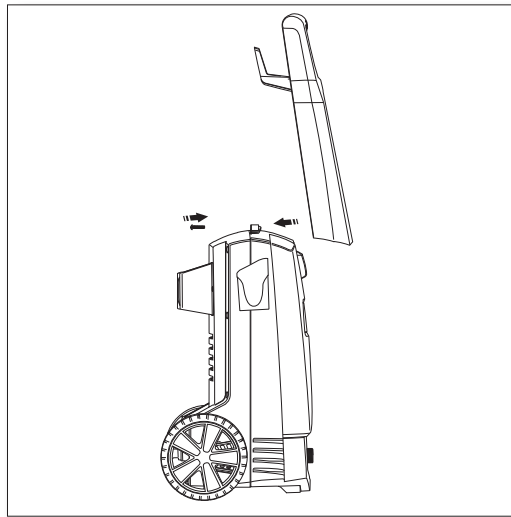

Fig. 1
- Install the handle to the BLUE CLEAN POWER WASHER (**Fig. 1**). Place the screws in the holes provided on the BLUE CLEAN POWER WASHER and handle, screw them together. Do not use a power screwdriver. When the screw is completely tight, give a small final clockwise twist of the screwdriver. Do not over tighten.